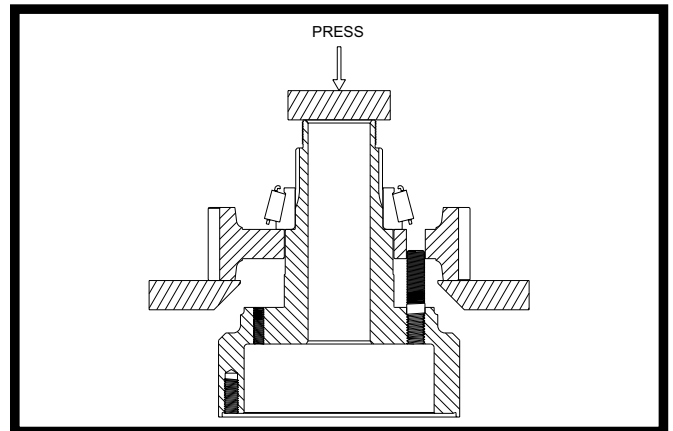

Fig 32
- To remove the front bearing cone assembly, remove the (8) locknuts securing the gear to the front differential case half. Place this assembly in a press such that the gear is supported. See Figure 32. Press the bearing cone assembly and the gear from the case.